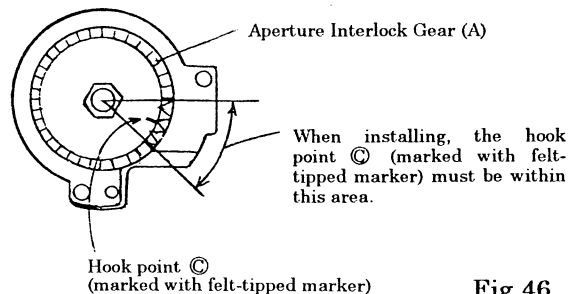

Fig.46
- When installing the Aperture Code Ass'y on the Mount Base, the hook point ③ (marked with a felt-tipped marker) of the Spiral Spring to the Aperture Interlock Gear (A) of the Aperture Code Ass'y must be positioned in the area as shown in Fig. 46.